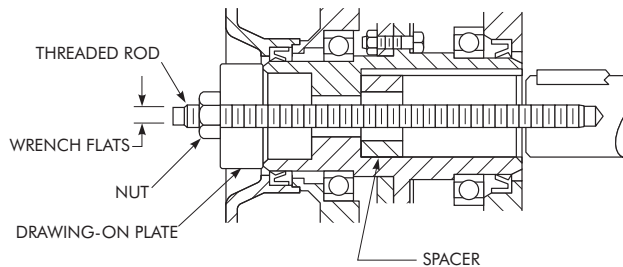

Figure 3
- D. Install spacer in coupling bore and position coupling bore and keyway in alignment with shaft, Figure 3.
- E. Insert threaded rod through coupling bore and thread into tapped hole in shaft, Figure 3.